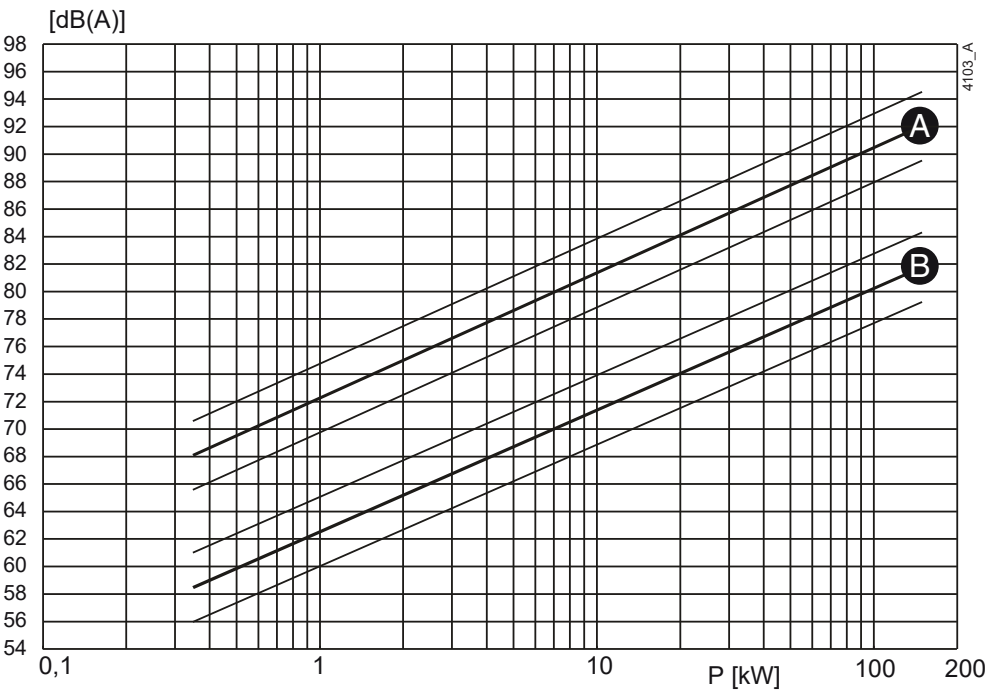
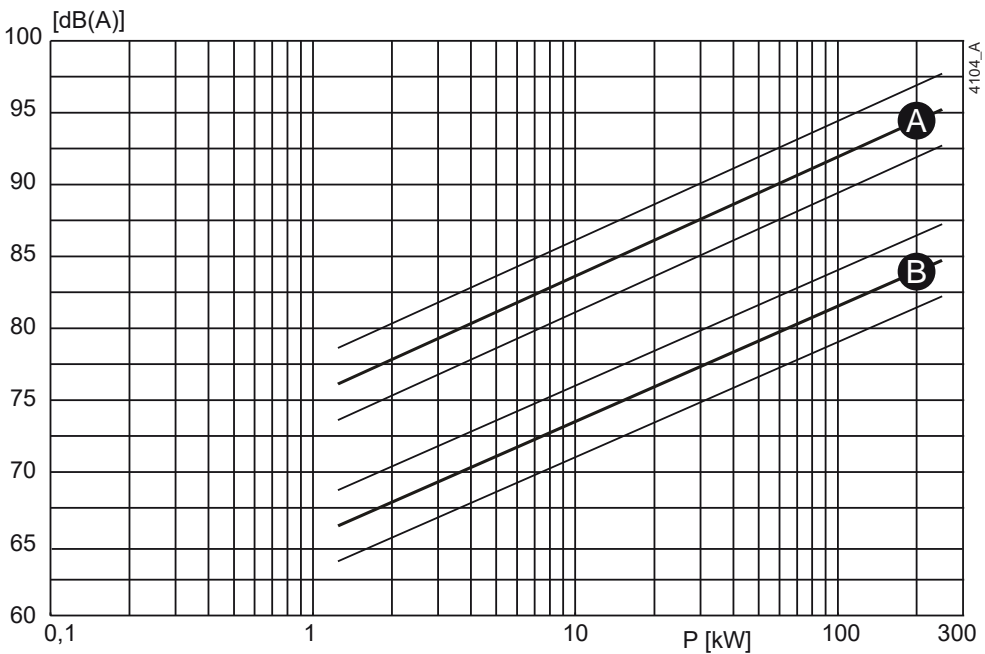

Figure 36: Noise level as function of pump power [kW] at  $1450 \text{ min}^{-1}$
Figure 37: Noise level as function of pump power [kW] at  $2900 \text{ min}^{-1}$
- 1 Determine the noise level ( $L_1$ ) of the pump, see figure 36 or figure 37.